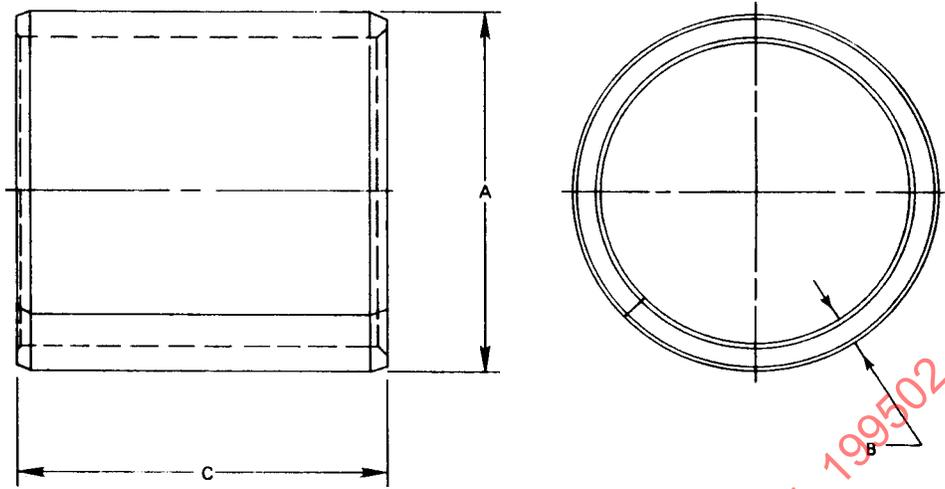

FIGURE 1—BASIC DIMENSIONS
3.4 Bushing Length Tolerance—(See Figure 1, Dimension C)